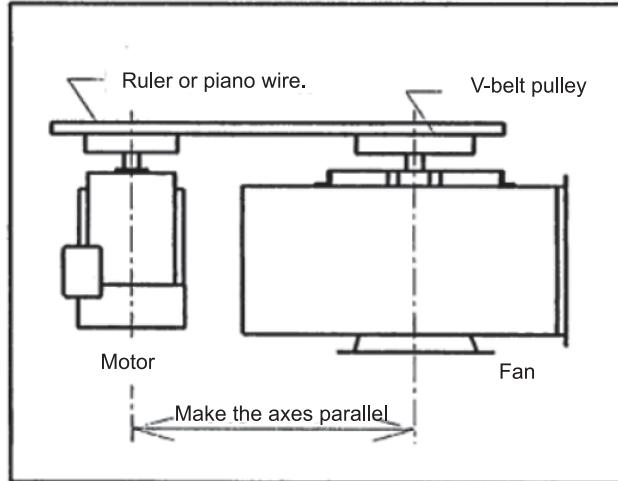

Figure 11 – How to perform alignment
- (1) As shown in Figure 11, place a ruler or a piano wire onto the outer ends of the V-belt pulleys on the fan and motor sides, and check that the ends of the pulleys are in a straight line and adjust the positions if they are misaligned.
- (2) If you can depress the middle of the V-belt with your finger up to about the same depth as the thickness of the V-belt, the tension of V-belt is appropriate. Use the slide base of the motor to adjust the tension of the V-belt.
- (3) Make high tension V-belts slightly tighter than standard V-belts. Too loose tension may cause the belt to slip during startup, and excessive tension may apply a large load to the shaft and bearing, thus resulting in failure.
- (4) Since V-belts tend to stretch at an early stage of use, ensure to readjust the tension in the first several days of operation (about 50 hours after the start of operation). Otherwise, the belt may break prematurely or come off.
- (5) First obtain the value of deflection δ by the relationship $\delta=0.016\ell$. (Where ℓ is the distance between the pulleys) Then provide the deflection δ mm to the middle of the V-belt and adjust the tension using a tension meter so that deflection load at this point becomes the value shown in the table below.